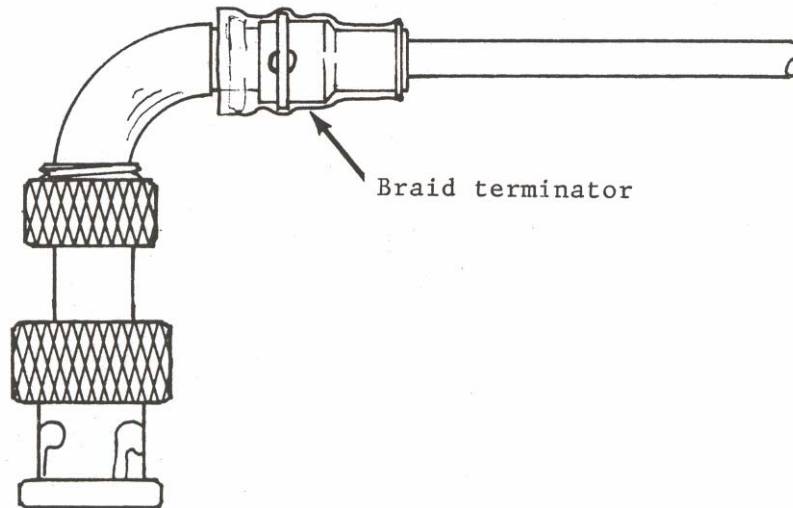

Figure 8-5. Braid Terminator Positioned Over Rear of Right-Angle Adapter
- Slide the braid terminator over the rear of the right-angle adapter and over the braid, until it bottoms against the right-angle adapter (Figure 8-5).